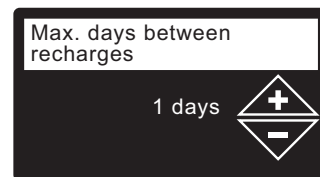

FIG. 28
- MAX. DAYS BETWEEN RECHARGES** Press the UP (▲) or DOWN (▼) buttons to set the number of days between automatic recharges (See Figure 28) The feature can be set from 1 to 99 days.